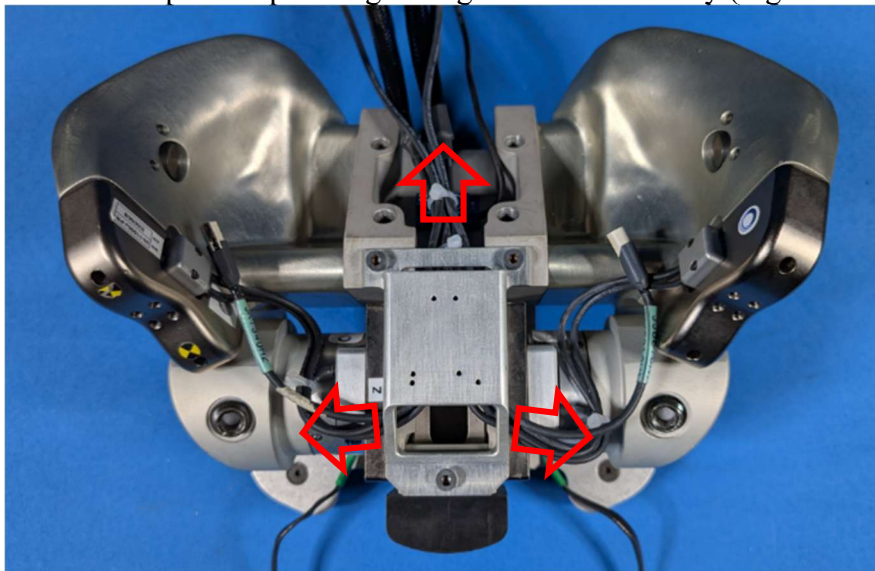

Figure 13-26. Pelvis cable cover installed with instrumentation routed through designated channels to prevent pinching
13.4.3.4 Install the pelvis cable cover, ensuring all wires are routed through the designated channels to prevent pinching during and after assembly (Figure 13-26).